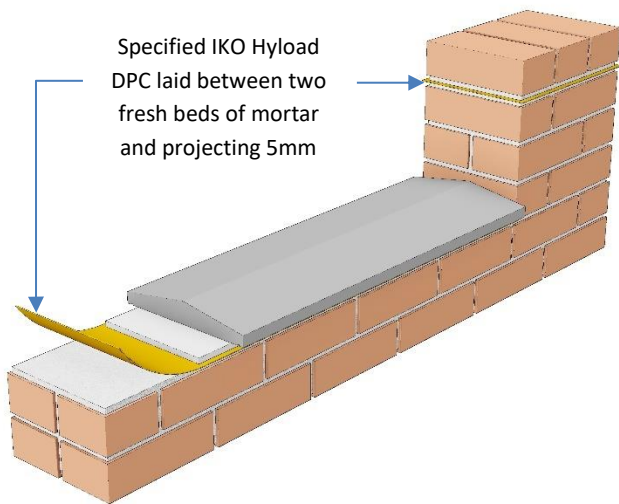

Figure 4 – Coping Stones and Brick-on-Edge Detailing
- Underneath coping stones or units that create an overhang to the wall surface below, the edge of the DPC should project no less than 5mm beyond the face of the wall surface (Figure 4):